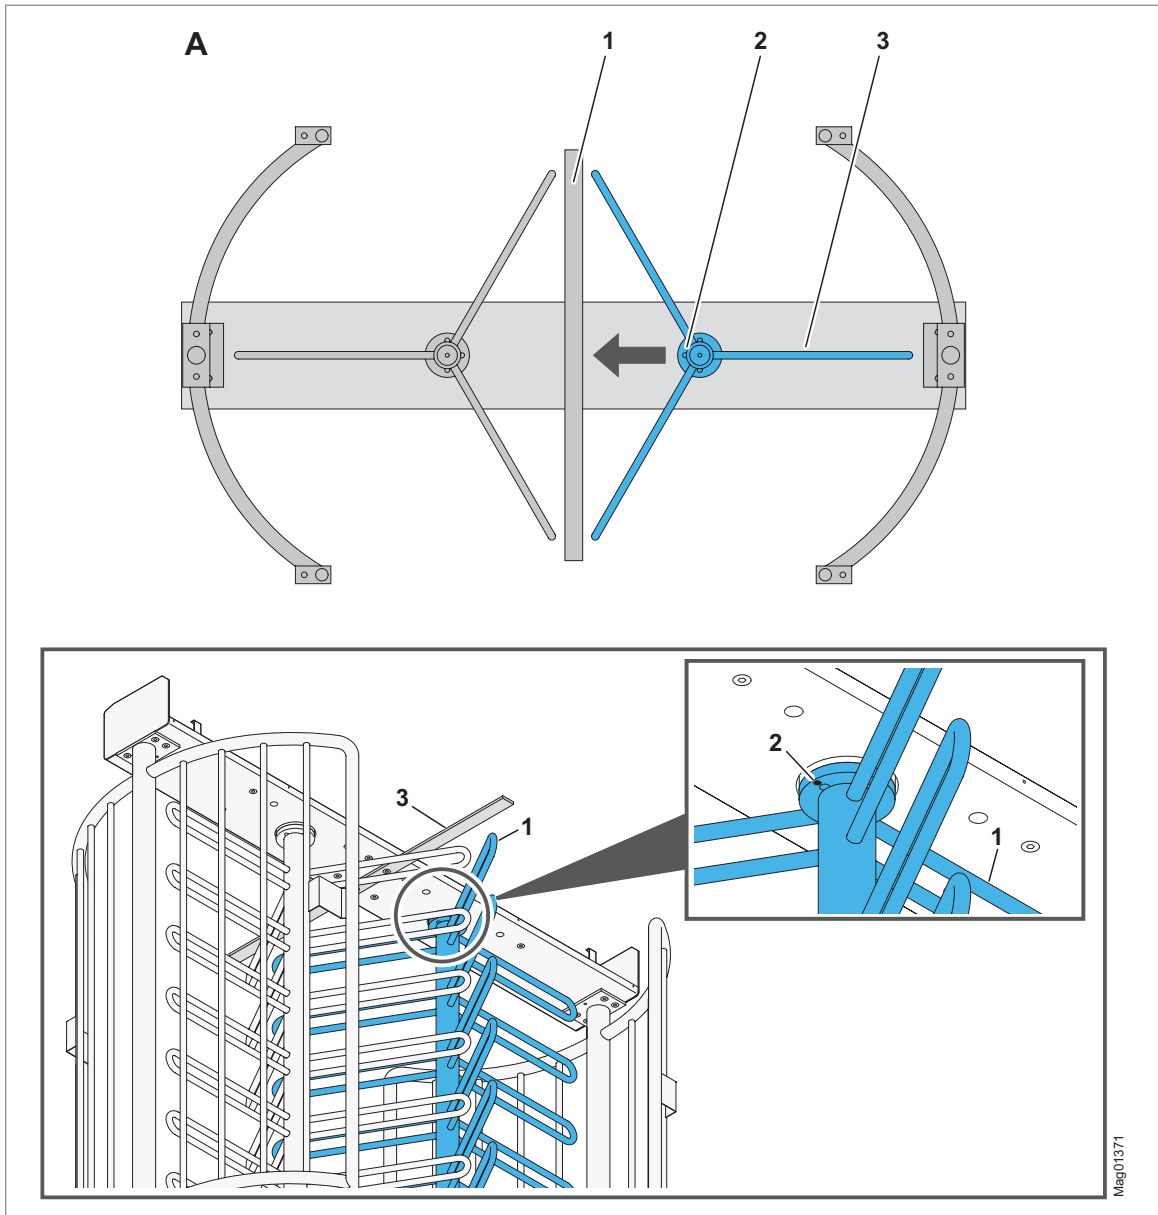

Fig. 32: Centre pillar alignment without heel guard before mounting – MPT-353 (3x120°)
5. Fix the centre pillar to the locking flange from above using the four screws supplied. Make sure that the centre pillar is correctly positioned in relation to the locking unit. ➤ Page 62, Fig. 32.